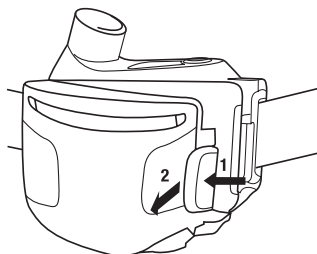

Fig. 5
- Press the cover latch on the right side and lift off (Fig. 5).